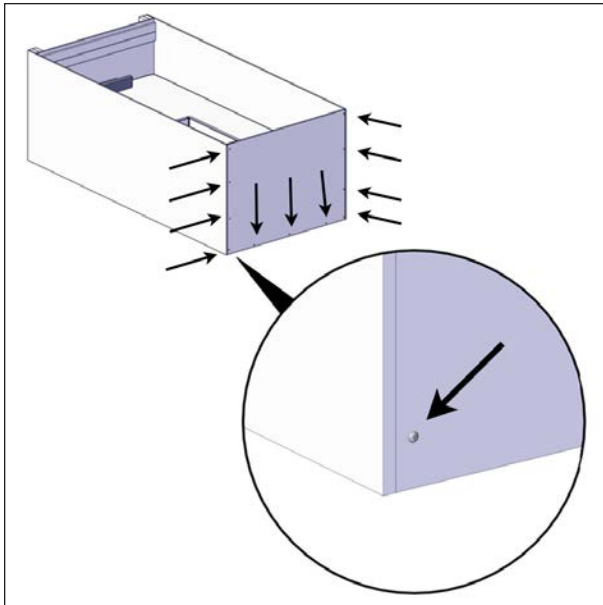

FIGURE 27: TOP BOARD REMOVAL
17. Unscrew the Robertson #8 x 1.5" screws (four on each side and three at the bottom) holding the top of the crate. Then, remove the top of the crate, see Figure 27.